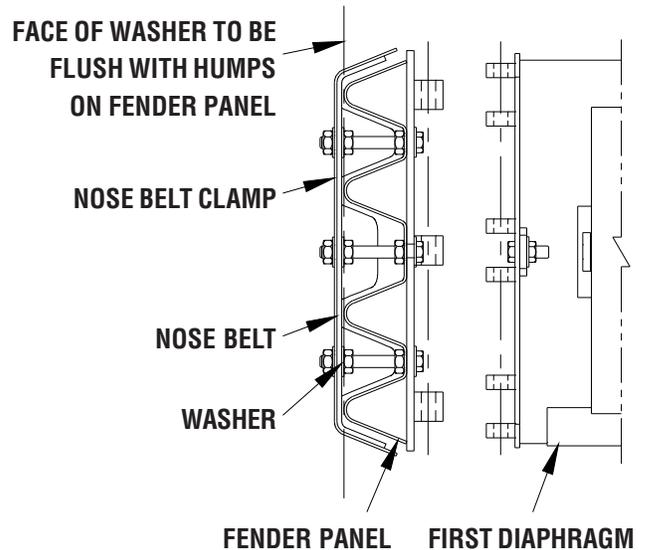

Figure 65
- Using 5/8" x 5" hex bolts, 5/8" x 1 3/4" flat washers and 5/8" hex nuts, attach hinge plate to fender panel as shown in Figure 65 (three places per side).